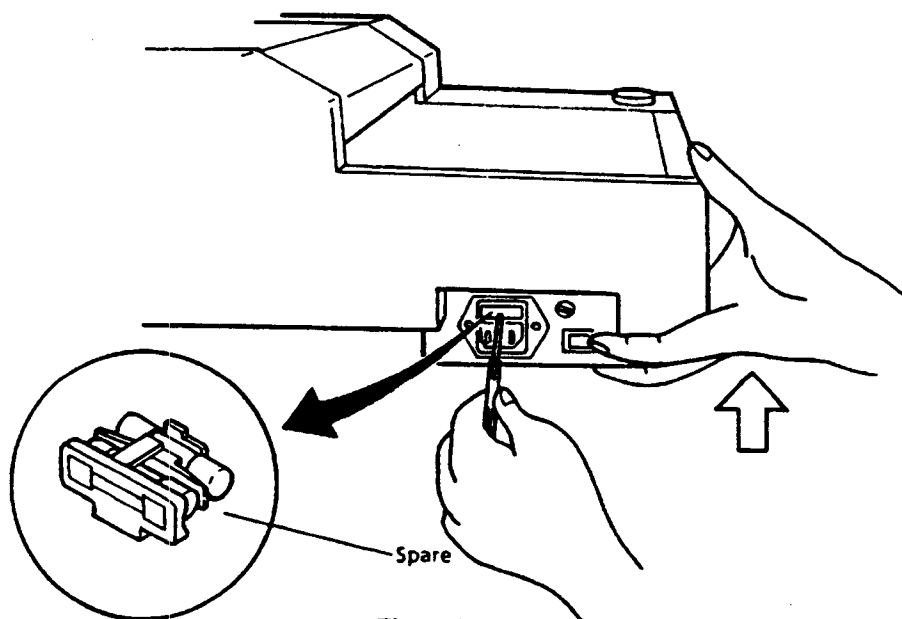

Figure 7.1
- (1) The fuse holder is at the top of the power connector on the left side panel. (Fig. 7.1)
- (2) Insert a screwdriver into the top of the fuse holder then pull it forward to remove the fuse holder.